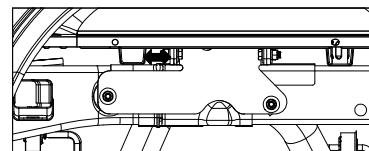

Figure D1: Driver side of truck frame inside the wheel well.
2. **Square the hitch.** With a tape measure, check the distance between the Turnoverball hitch and the nearest bed cross member. The distance between the hitch and the cross member should be consistent on the passenger side and the driver side of the hitch, see figure D1. Adjust hitch until the hitch and the bed cross member are the same from side to side.